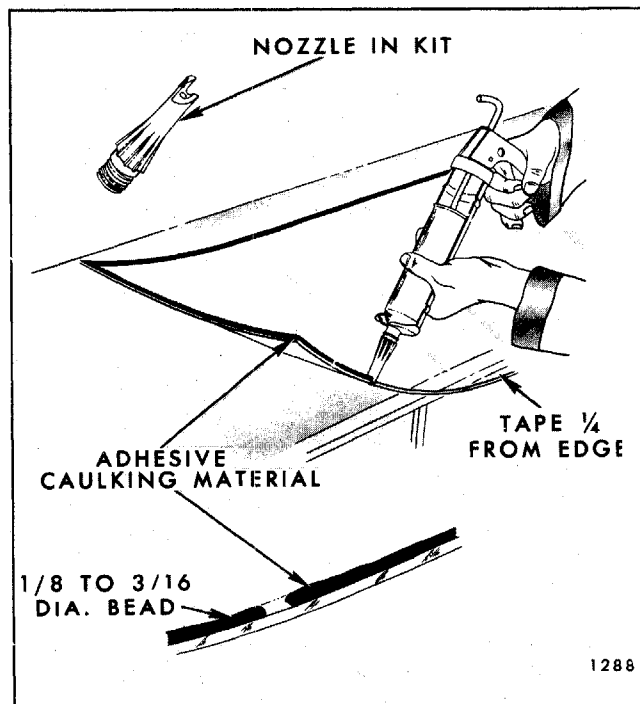

Fig. 11-7 - Adhesive Material Application - Short Method
7. Apply smooth continuous bead of adhesive material over entire inside edge of glass where primed in step 6. Material should be 3 mm (1/8") to 5 mm (3/16") in diameter (Fig. 11-7). On windshields with embedded antenna, omit adhesive caulking 100 mm (4") both sides of antenna lead pigtail.